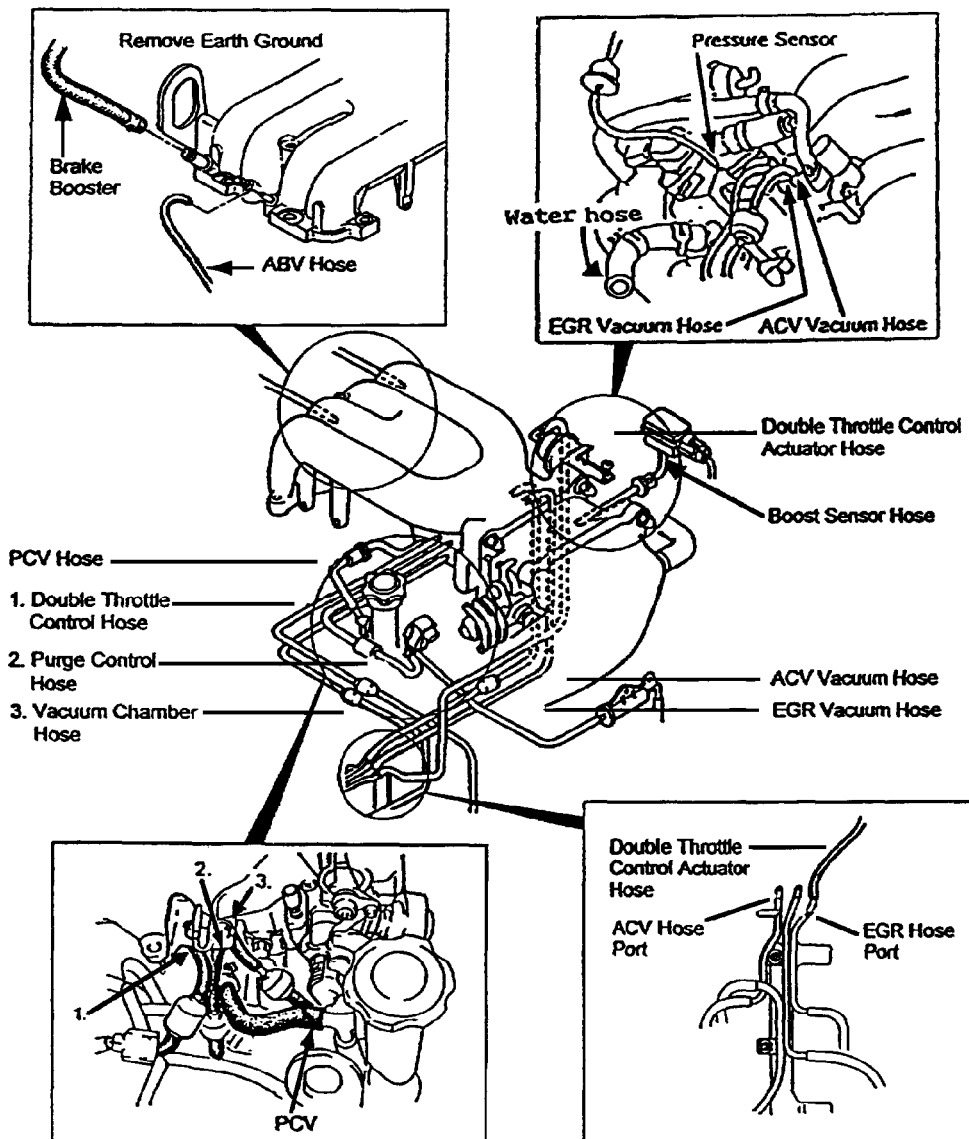

Fig. 4: Removing Hoses & Harnesses From the Extension Manifold
13. Remove the hoses from the extension manifold. See Fig. 4.
14. Remove the harnesses from the extension manifold. See Fig. 4.